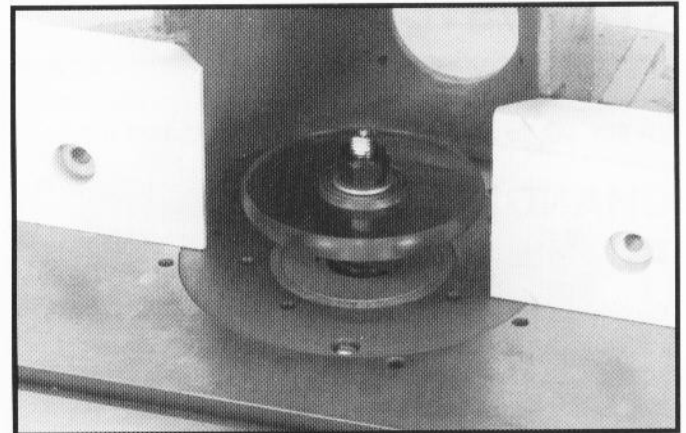

Fig. 18
4. Fig. 18, illustrates the 4-1/2" diameter spindle guard assembled to the spindle.